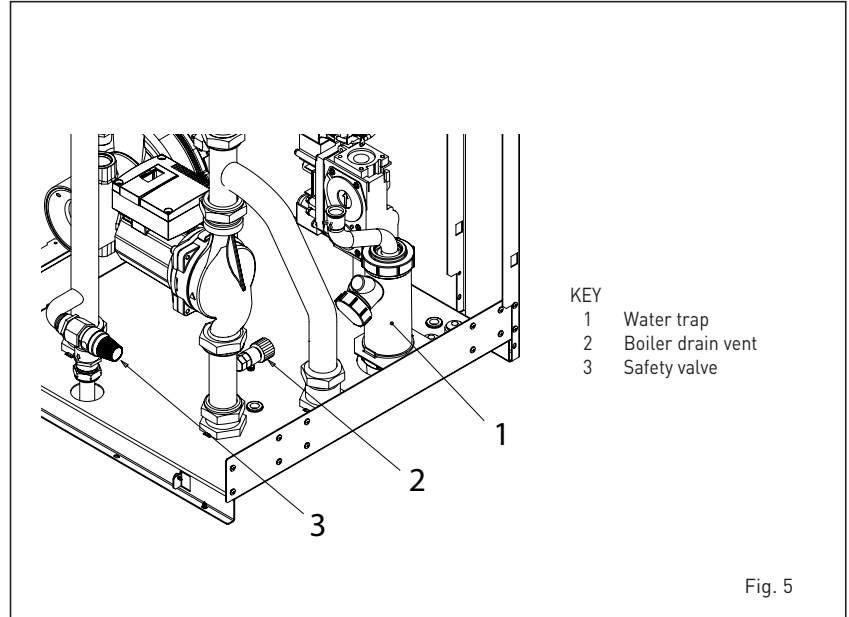

Fig. 5
To drain the system, turn off the boiler, isolate the flow and return, and use the boiler drain vent (2 fig. 5).
2.4.3 Requirements for sealed water systems MURELLE HE 110 R ErP (fig. 5/a)
- b) A filling device as shown in fig 5/a must be incorporated.